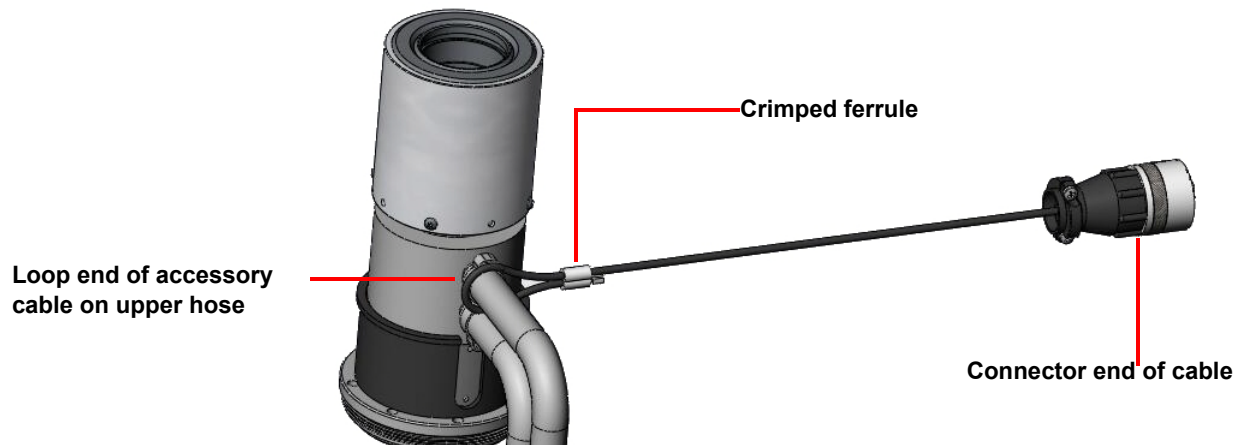

Figure 5 Accessory cable properly installed on upper hose.
- 6 Slip the loop end of the accessory cable over the upper hose quick disconnect fitting. It necessary, enlarge the loop by pushing the cable through the crimped ferrule. Refer to Figure 5.
- 8 On the upper hose, slide the accessory cable loop towards the bath as shown in Figure 5. Tighten the loop until it fits snugly on the upper hose.